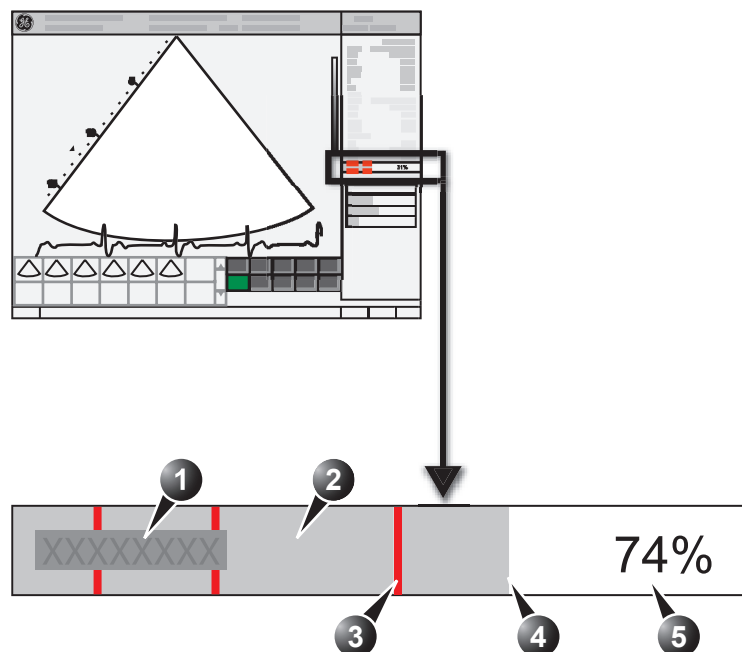

Figure 4-5: The buffer bar in Continuous capture
When entering a level with Continuous capture enabled, a *Buffer bar* is displayed in the *Info window* (see Figure 4-5). The *Buffer bar* displays the following information:
"Capture" is displayed in the buffer bar, the gauge starts filling and the percentage of filled memory buffer increases (see Figure 4-5, page 156).
9. Acquire all your views. The memory buffer gauge increases (Figure 4-5). When memory filling exceeds 90%, the percent number turns red.